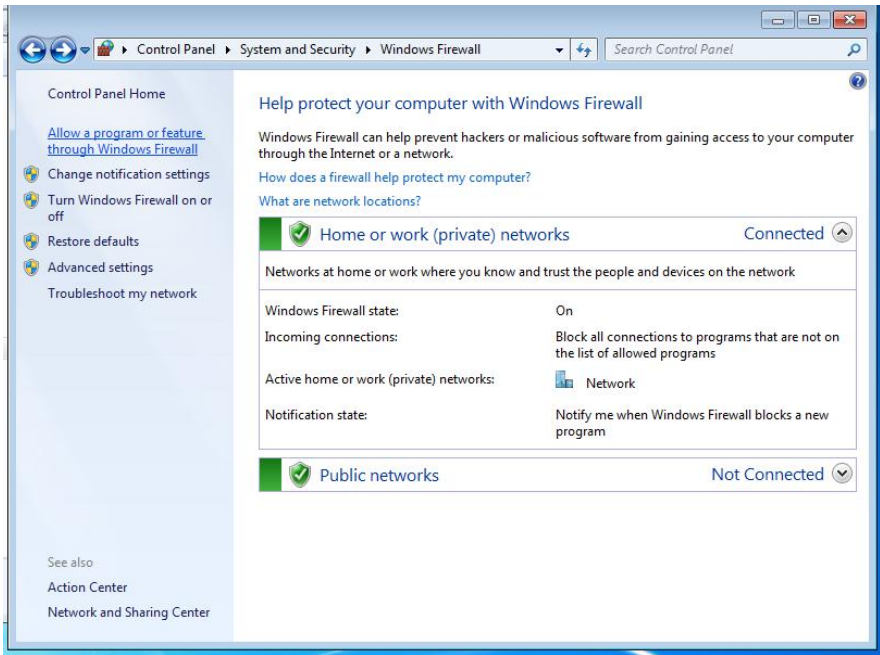

Fig.1.17 Windows Firewall
(4) Click “Allow a program of feature through Windows Firewall” (see Fig.1.17).